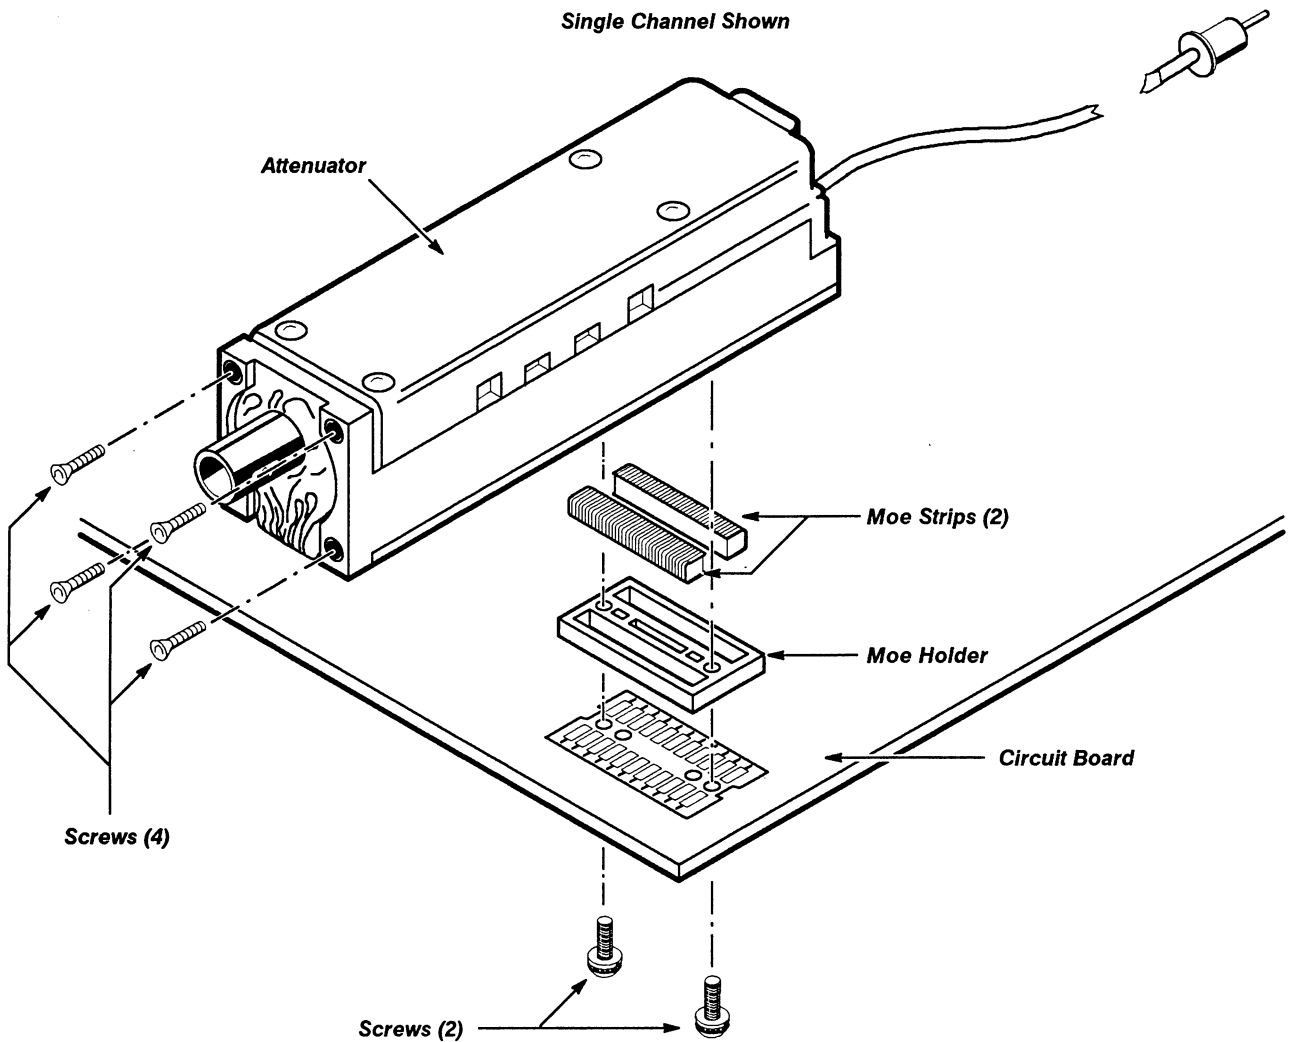

Figure 3-5 – Location of Screws and Parts for Removal of an Attenuator
- Step 3: Use a Torx T-8 screwdriver to remove the two screws from the component side of the A1 Main board that fasten the subject attenuator (refer to Fig. 3-5).
- Step 2: Put a metal-on-elastomer (MOE) strip holder on the Main board in the appropriate location (refer to Fig. 3-5).
- Step 7: Replace the MOE holders on the bottom of the A1 Mother board and put MOE strips in the holders as shown in Figure 3-5.